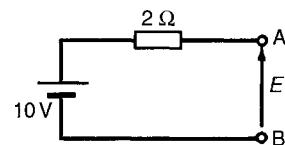

Figure 13.29
- (i) The open-circuit voltage, E , across terminals AB in Fig. 13.29 is equal to 10V, since no current flows through the 2 Ω resistor and hence no voltage drop occurs.